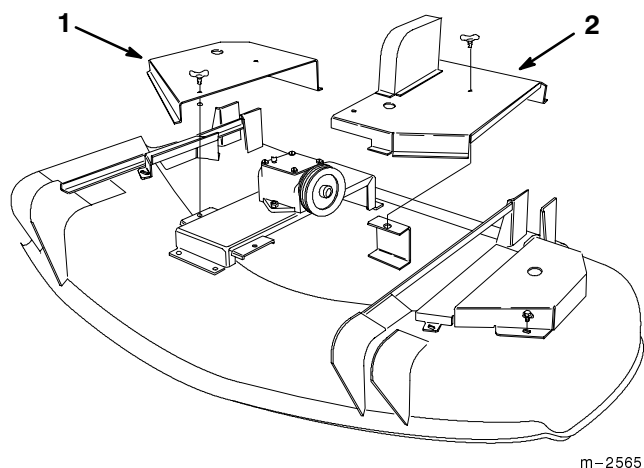

Figure 29
1. Turn the wing head studs holding the left and right center deck covers 1/4 turn counterclockwise and remove both center deck covers (Fig. 29).
5. Reinstall both center deck covers, then turn the wing head studs 1/4 turn clockwise to secure the covers to the deck (Fig. 29).